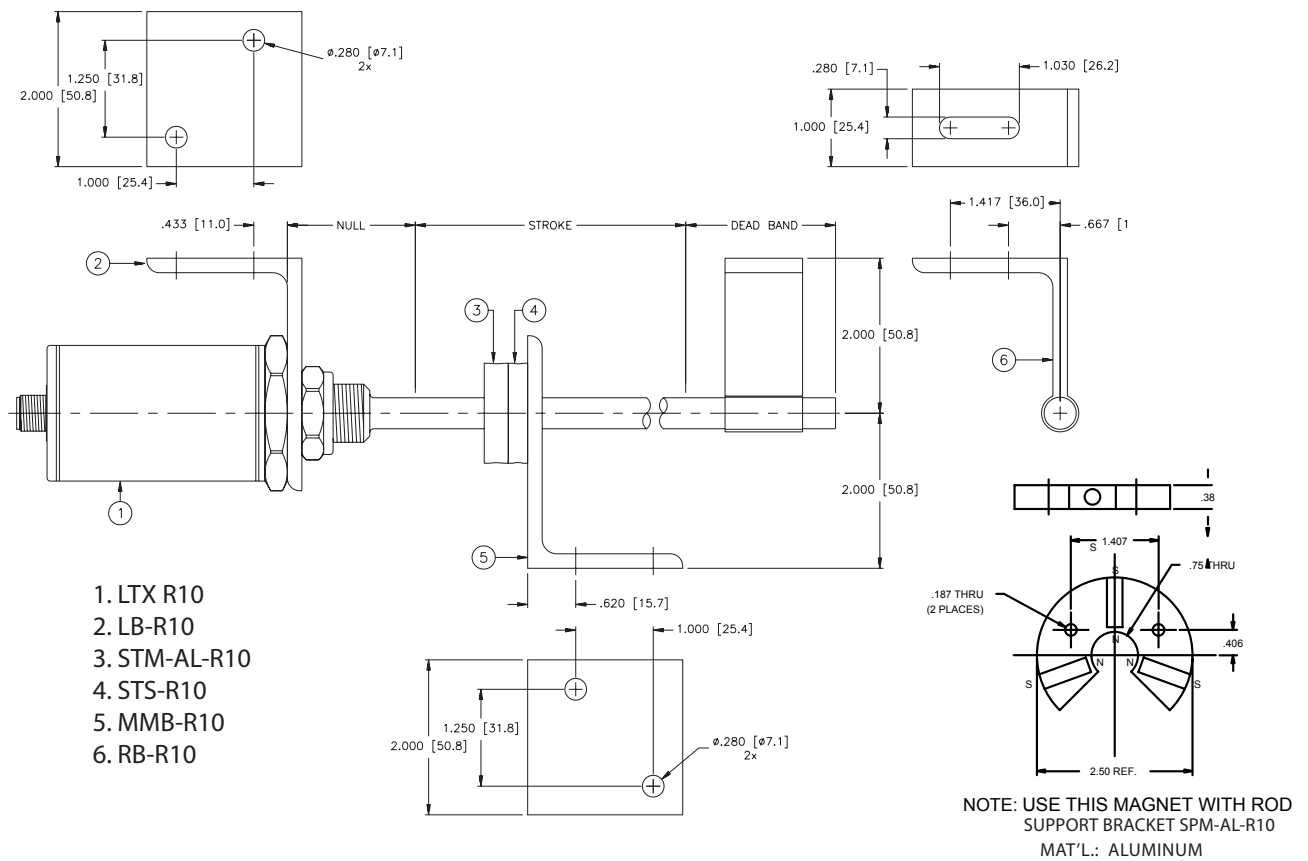

Figure 2-1: Mounting the LDT
**Do not use the black aluminum cover of the head assembly or connector to tighten the LDT within the bracket (see Figure 2-1). This may damage the LDT and will void your warranty. To tighten the LDT within the bracket, use the 1.75" hex mounting base on the head assembly.**
- A non-ferrous spacer must be used to separate the magnet assembly from the head of the piston rod. See Figure 2-1.
Do not use the black aluminum cover of the head assembly or connector/cable nut to tighten the LDT within the bracket (see Figure 2-1). This may damage the LDT and will void your warranty. To tighten the LDT within the bracket, use the 1.75" hex mounting base on the head assembly.